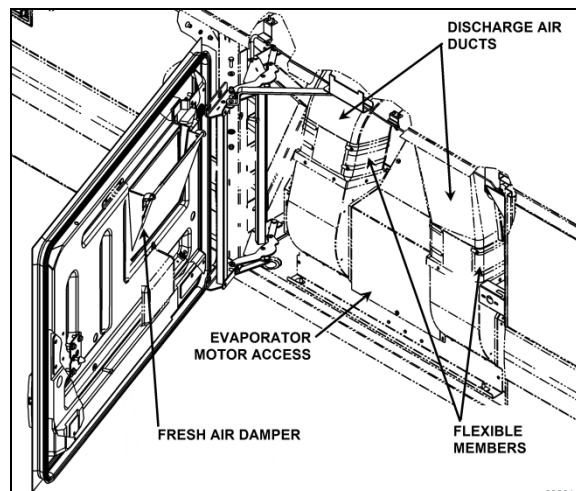

FIGURE 84: X3 SERIES PASSENGERS' AREA FRESH AIR DAMPER
- X3 Series - On the evaporator compartment door (Figure 84).